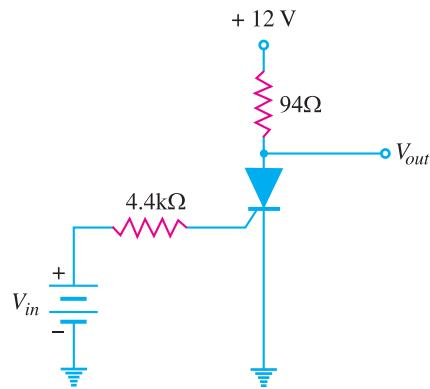

Fig. 20.31
6. In Fig. 20.31, if the trigger current of the *SCR* is 1.5 mA, what is the input voltage that triggers the *SCR*? Given $V_T = 0.7V$. [7.3V]